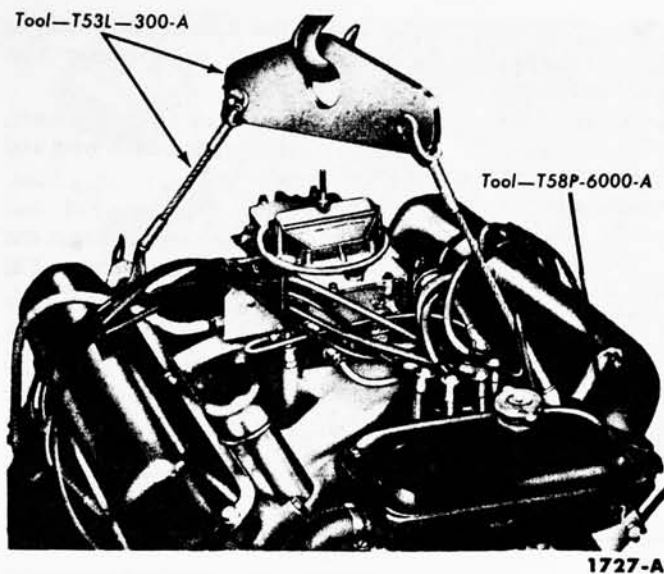
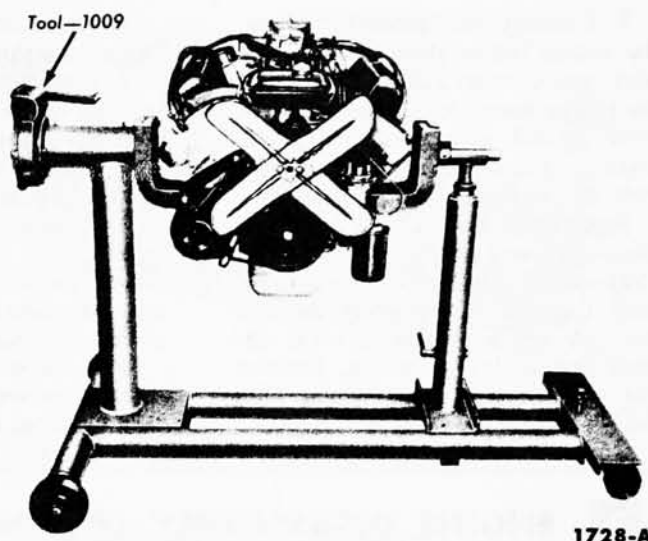

FIG. 13—Engine Lifting Brackets and Sling
FIG. 14—Engine Work Stand
Install the engine left lifting bracket on the front of the left cylinder head where the coil mounts. Install the engine right lifting bracket at the rear of the right cylinder head. Attach the engine lifting sling (Fig. 13). Raise the engine slightly and carefully pull it from the transmission. Lift the engine out of the engine compartment and install it on a work stand (Fig. 14).
1. Position the exhaust gas control valve, with a new gasket on each side, on the right exhaust manifold studs. Temporarily tie the valve to the manifold. Place a new gasket over the studs of the left exhaust manifold. Loosen the engine right and left support insulators at the chassis. Attach the engine lifting brackets and sling (Fig. 13), then remove the engine from the work stand.